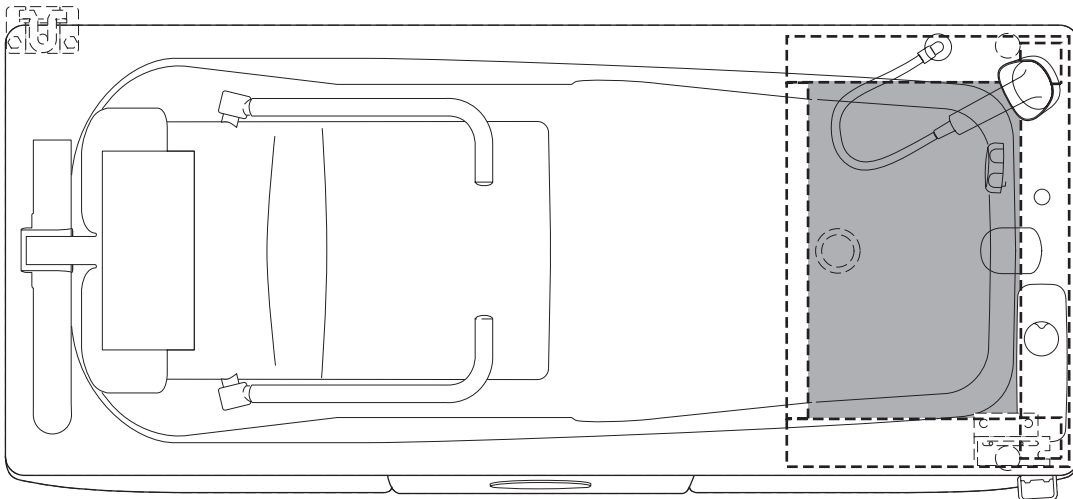

Fig. 1
- Arjo recommends floor sink drain within the chassis foot end frame, see Fig 1